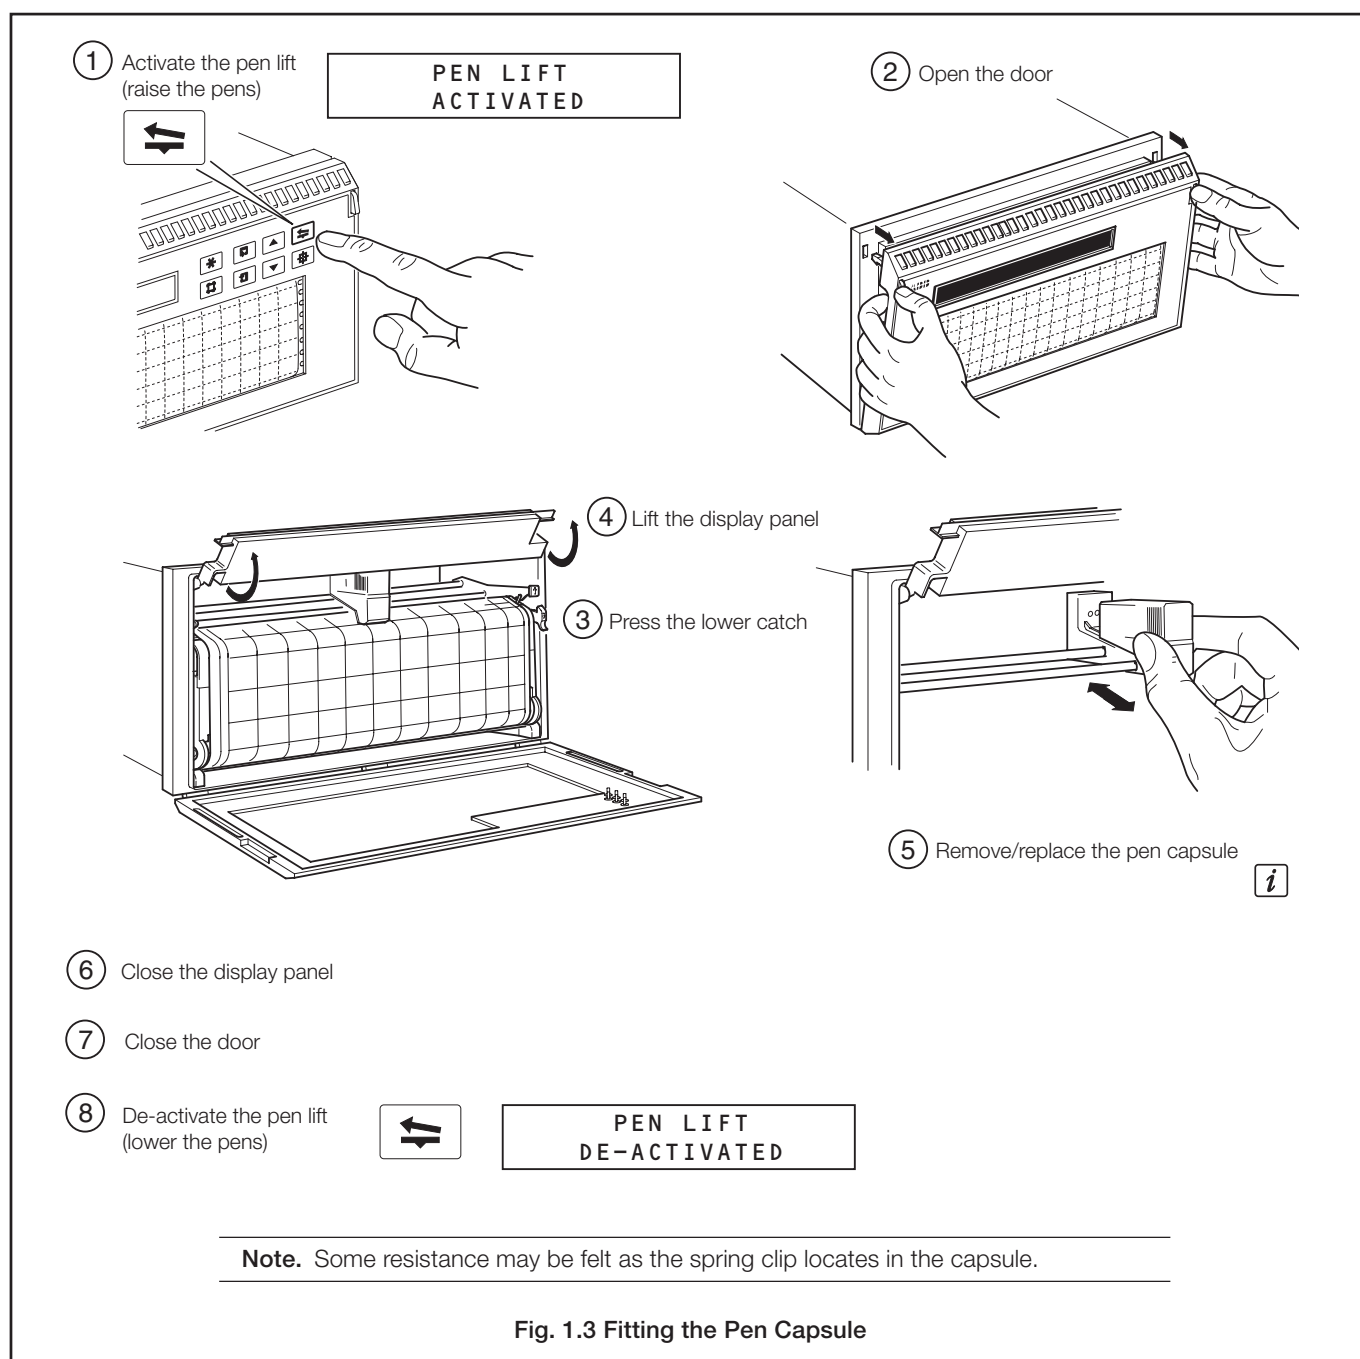

Fig. 1.3 Fitting the Pen Capsule
1.2 Fitting the Pen Capsule – Fig.1.3
- b) Fit a new capsule as shown in Fig. 1.3.